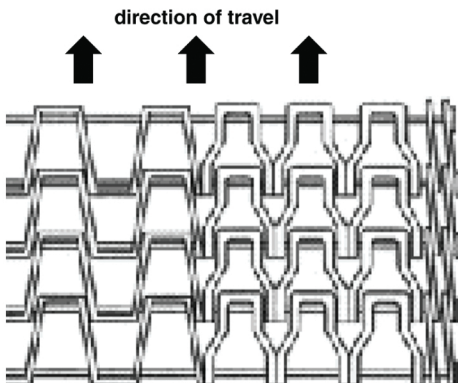

fig. 1
- a. The belt should be placed on the conveyor with proper orientation to the direction of travel (Figure 1).